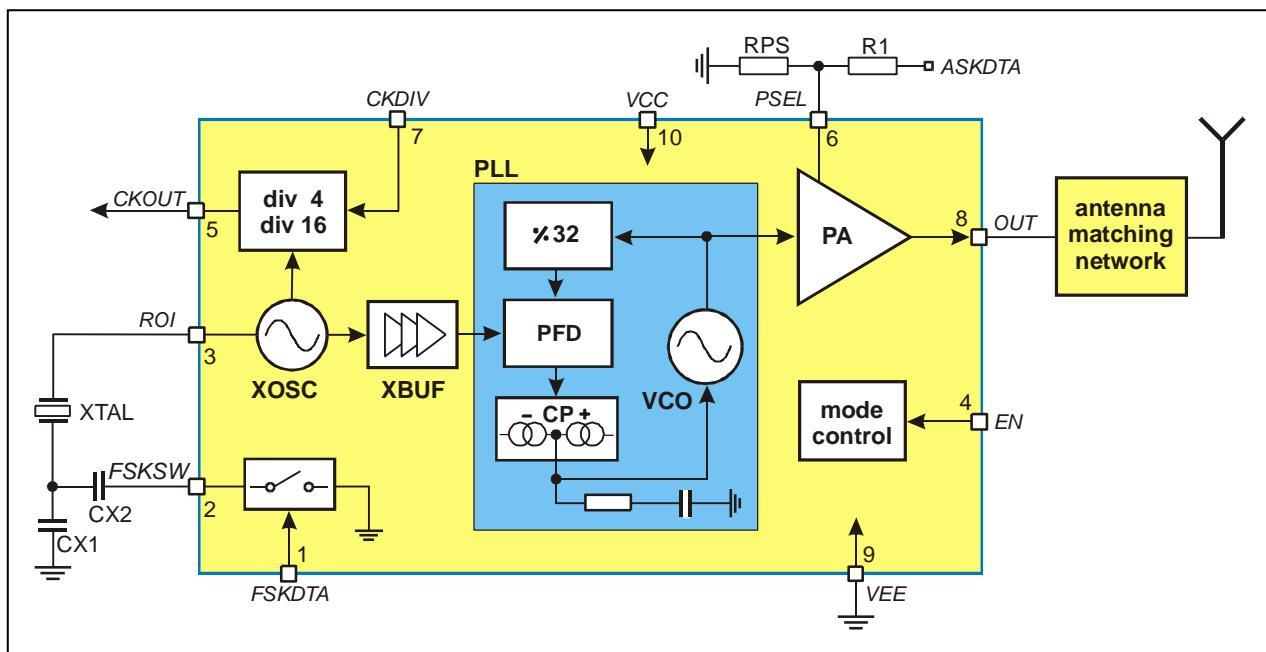

Fig. 1: Block diagram with external components
As depicted in Fig.1, the TH72016 transmitter consists of a fully integrated voltage-controlled oscillator (VCO), a divide-by-32 divider (div32), a phase-frequency detector (PFD) and a charge pump (CP). An internal loop filter determines the dynamic behavior of the PLL and suppresses reference spurious signals. A Colpitts crystal oscillator (XOSC) is used as the reference oscillator of a phase-locked loop (PLL) synthesizer. The VCO's output signal feeds the power amplifier (PA). The RF signal power P_{out} can be adjusted in four steps from $P_{out} = -12 \text{ dBm}$ to $+10 \text{ dBm}$, either by changing the value of resistor RPS or by varying the voltage V_{PS} at pin PSEL. The open-collector output (OUT) can be used either to directly drive a loop antenna or to be matched to a 50Ω load. Bandgap biasing ensures stable operation of the IC at a power supply range of 1.95 V to 5.5 V.